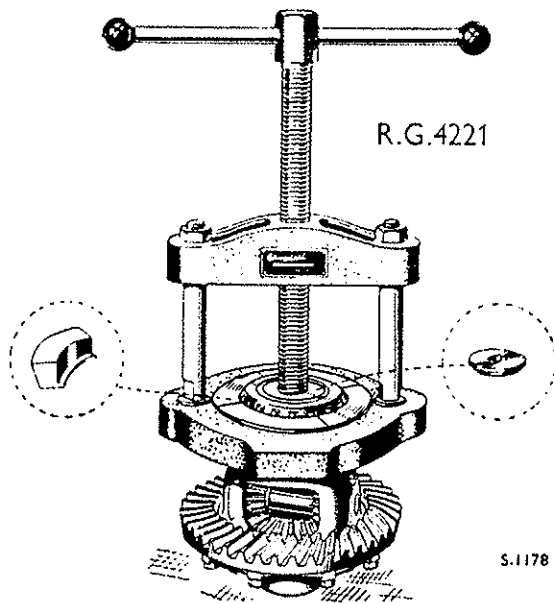

Fig. G.3. Removal of the inner race of the differential support bearing, using Churchill Tool R.G. 4221B and adaptor 2A (8A for the bevel pinion rear bearing).
4. Remove crown wheel by releasing the tab washers (21) and withdrawing the eight securing bolts.
5. Knock out lock pin (18) securing cross pin (17) in differential box.
6. Push out cross pin. Differential pinions complete with thrust washers (16) can then be carried round and brought out through the wide openings in the differential box.
7. Differential wheels and thrust washers (15) can now be taken out of the differential box through the wide openings.
8. Should it be found necessary to renew the support bearings which carry the differential assembly, the old inner races may be withdrawn, using the Churchill Bearing Remover Tool R.G.4221B and Adaptor 2A, illustrated in Fig. G.12 and shown in operation in Fig. G.3.